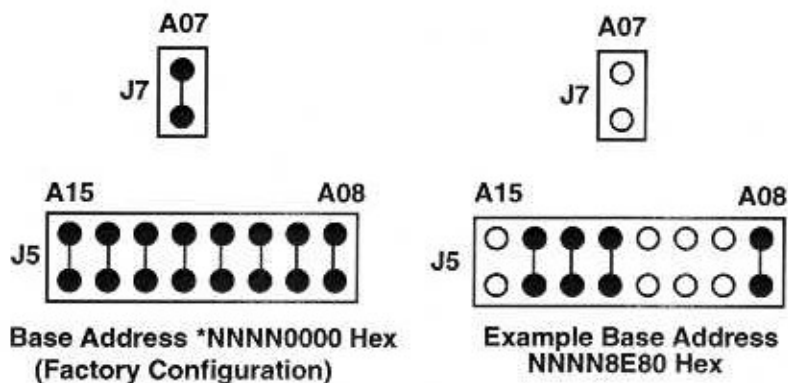

Figure 2-2 Base Address Selection
In programming the board's base address, an installed jumper equals zero (0), and an omitted jumper equals one (1). Figure 2-2 shows an example base address as well as the factory-configured base address.